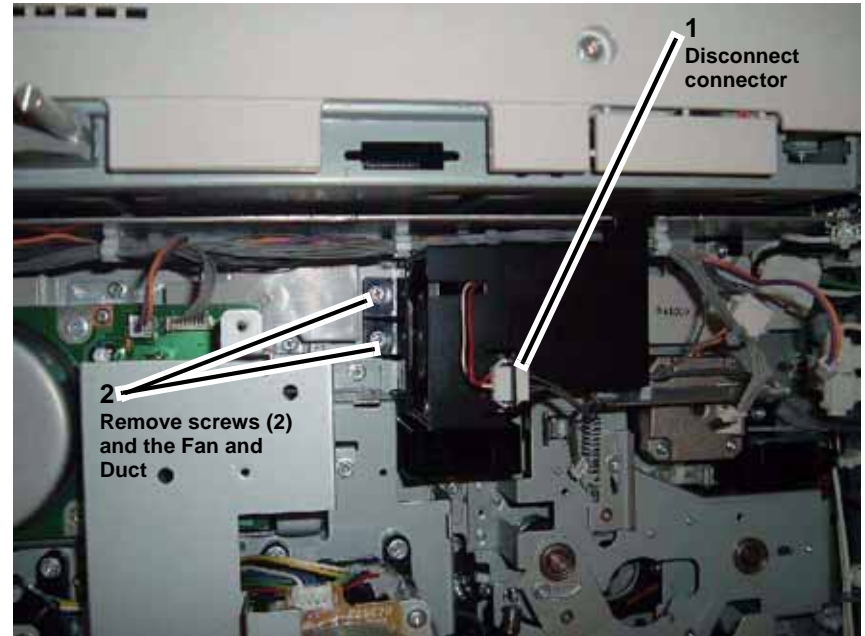

Figure 6 Removing the Rear Cooling Fan
8. Remove the Rear Cooling Fan and Duct (Figure 6).